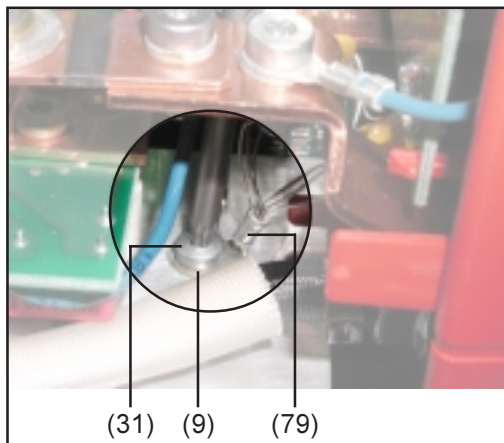

Fig. 4
- Mount the temperature sensor (9) and the suppressor circuit (79) using a M4x14-TX20 screw (31)
- Tighten the M4x14-TX20 screw (31) with a torque of 2 Nm (Fig.4)